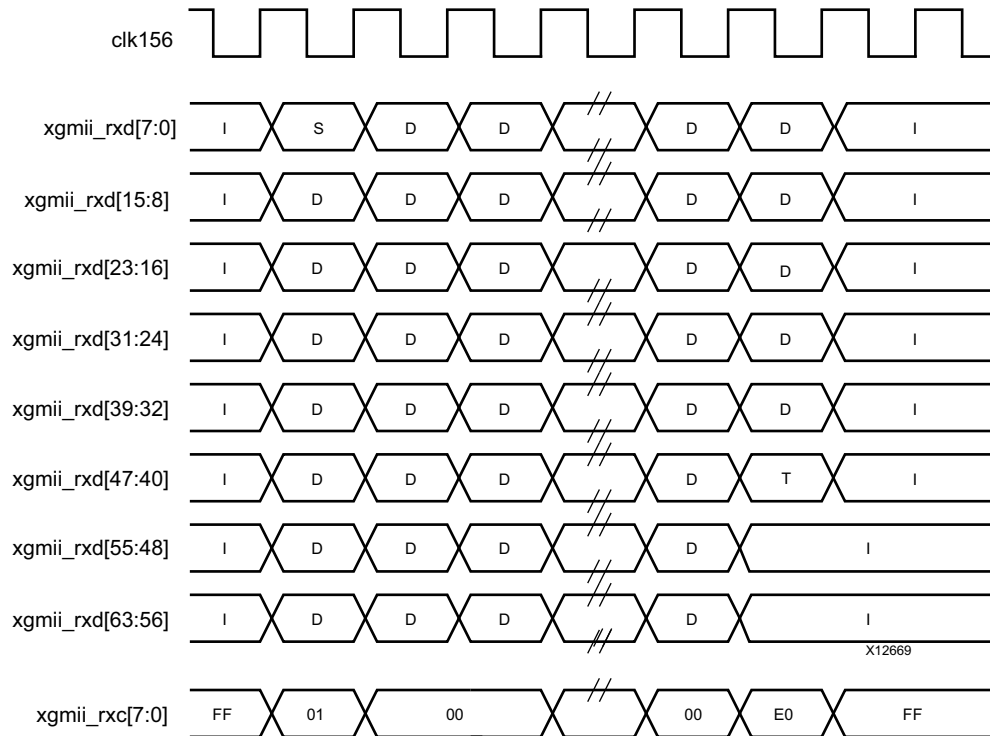

Figure 3-9: Frame Reception Across the 64-Bit XGMII Interface
The timing of a normal inbound frame transfer is shown in Figure 3-9. As in the transmit case, the frame is delimited by a Start character (S) and by a Terminate character (T). The Start character in this implementation can occur in either lane 0 or in lane 4. The Terminate character, T, can occur in any lane.